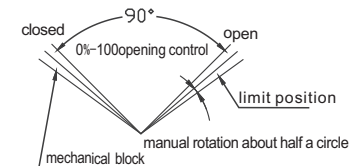

Figure 7
- ⚠ The electrical and mechanical limit positions of the electric actuator must meet the requirements of (Figure 7). If the mechanical limit is ahead or heavier than the electrical limit, the motor of the electric actuator will be blocked, causing heat or burned.